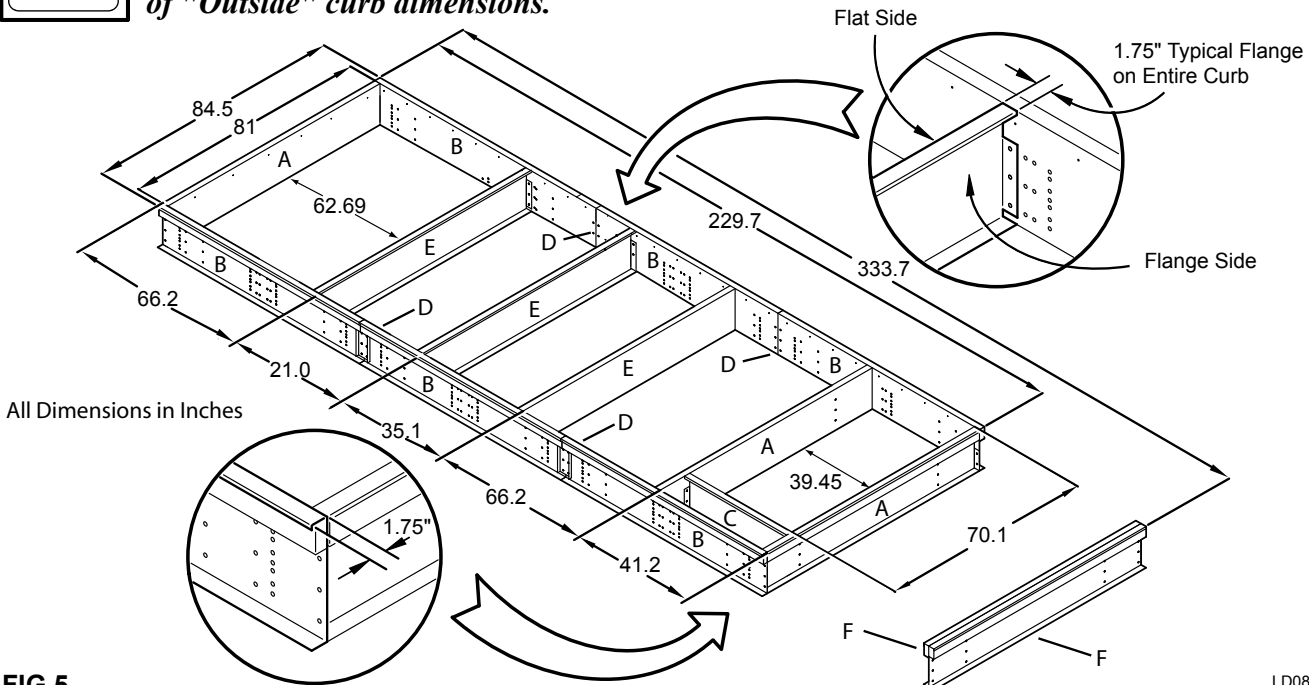

FIG 5 -
- Take the two extra End Panels (F) and bolt back to back, then locate at the end of the condenser section, as shown on Figure 5.